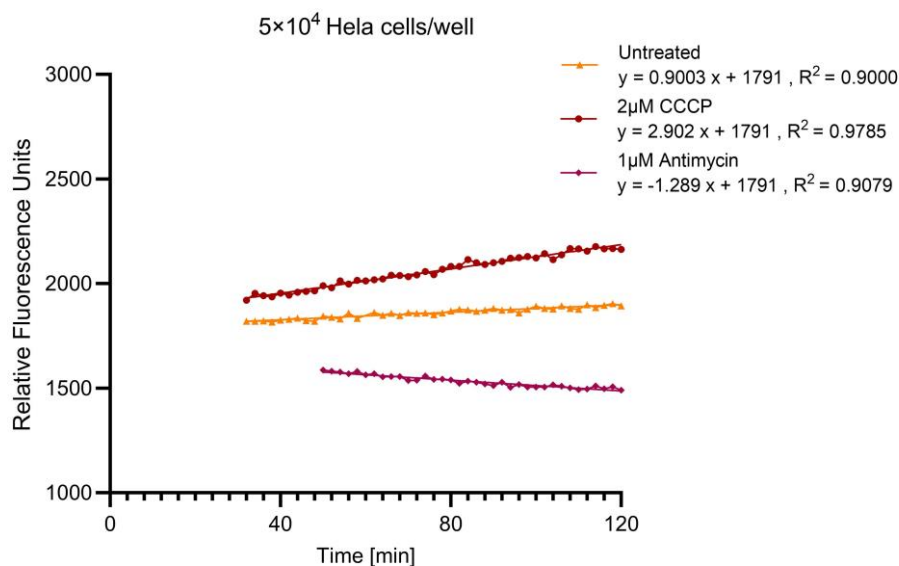
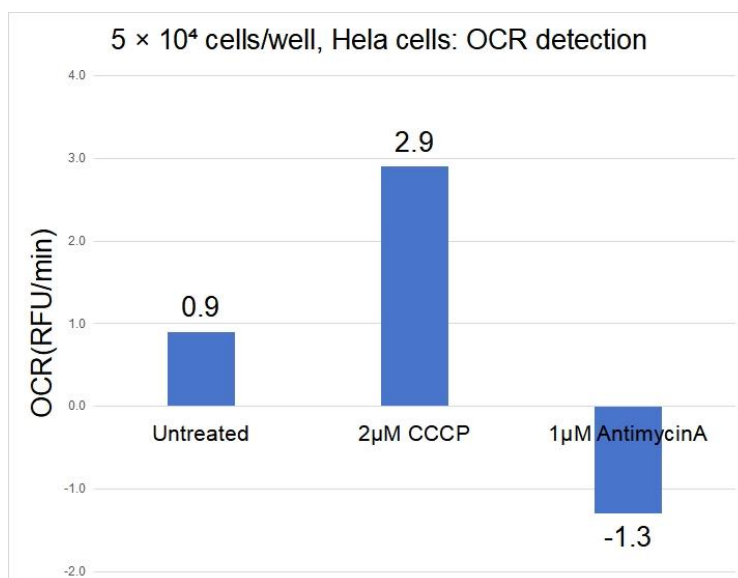

Figure 2. Linear regression fit of fluorescence values over time in the kinetic curve of extracellular oxygen consumption in Hela cells
Figure 3. Comparison of OCR Values Among Different Groups of Hela Cells
7. Identify and select the linear segment of the curve, then perform a linear regression to calculate the slope, as shown in Figure 2. The slope obtained from the regression is the OCR, expressed in RFU/min (Relative Fluorescence Units per minute), as shown in Figure 3.